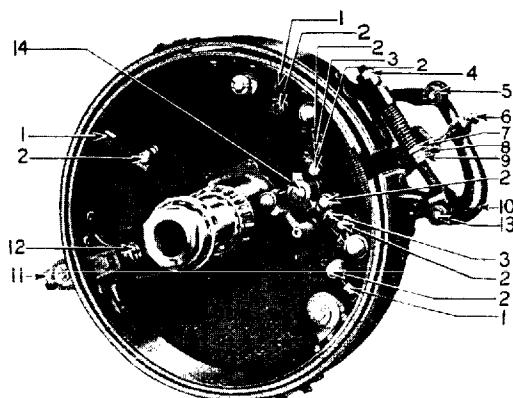

Fig. 99
Compensation for ordinary wear may be made by turning the nut (4) Fig. 99 and only after considerable use is it necessary to make more complete adjustment. Wear of brake linings cannot be taken up by any adjustment of brake pull rod or by adjustment of the stop screws (6) for lever (10) which are properly set at the factory and bear no relation to adjustment for wear. To make a complete brake adjustment, a Gauge for